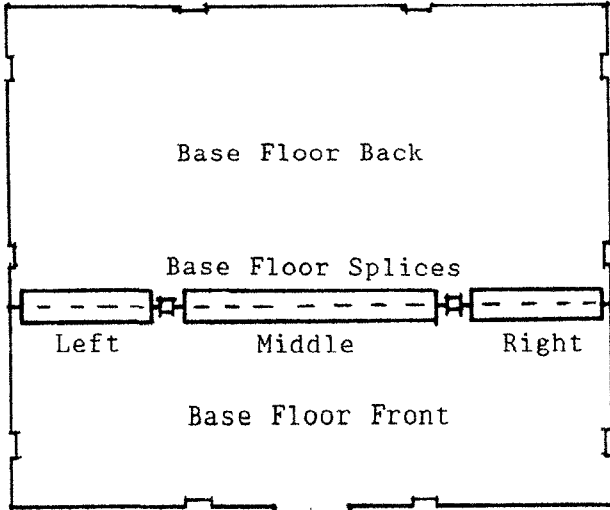

Figure 1
1. Locate base floor back, base floor front, and left, middle, and right base floor splices (Sheets AL-1,2,3). With the good sides of the floor parts facing down splice base floor together by gluing and taping the splices in place. Sand the edges to be spliced. Splices must be at least 1/8" away from floor edges. Figure 1.